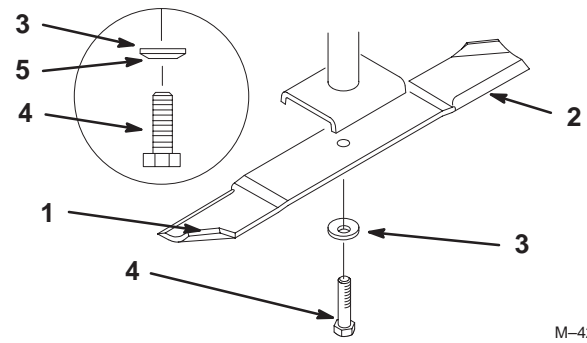
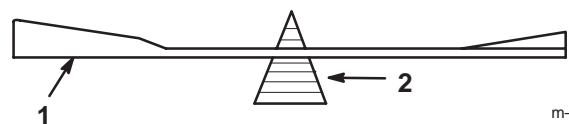

Figure 30
Figure 32
Hold the blade end using a rag or thickly-padded glove. Remove the blade bolt, spring disk, and blade from the spindle shaft (Fig. 30).
2. Check the balance of the blade by putting it on a blade balancer (Fig. 32). If the blade stays in a horizontal position, the blade is balanced and can be used. If the blade is not balanced, file some metal off of the end of the sail area only (Fig. 30). Repeat this procedure until the blade is balanced.
1. Install the blade onto the spindle shaft (Fig. 30).
2. Install the spring disk and blade bolt. The spring disk cone must be installed toward the bolt head. (Fig. 30).